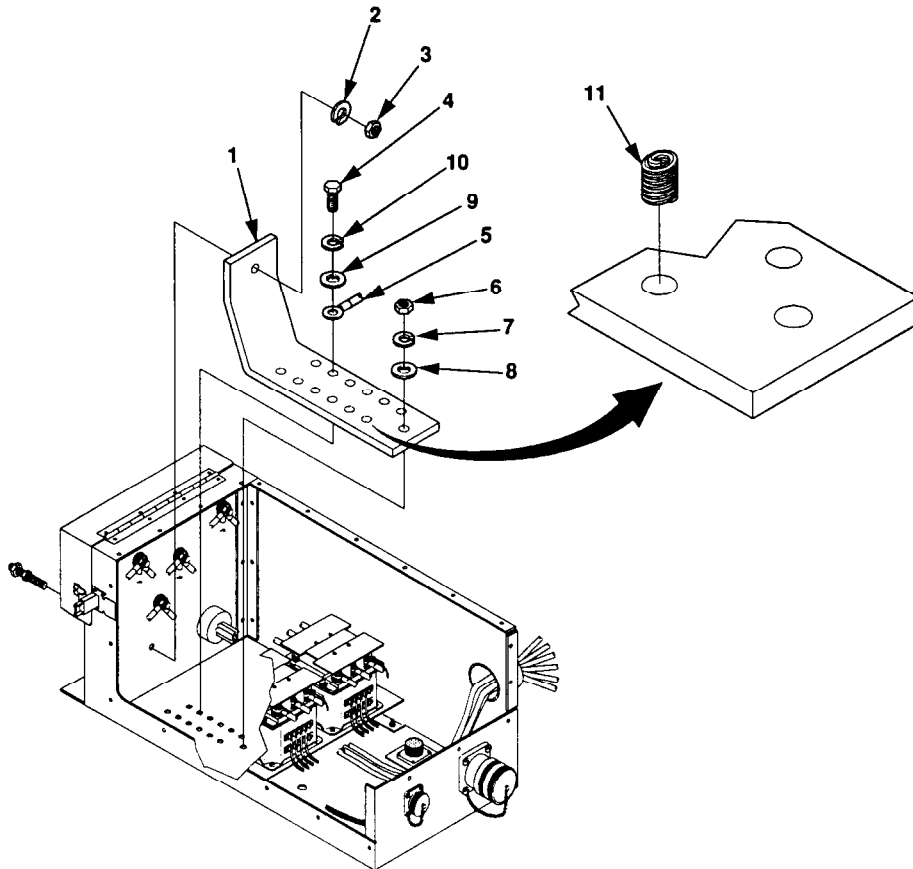

Figure 5-14. Bus Bar Maintenance
5. Remove cap screws (4, figure 5-14), lock washers (10), flat washers (9), and electrical leads (5) from bus bar (1).
6. Remove nut (3) and lock washer (2).
7. Remove nut (6), lock washer (7), flat washer (8), and bus bar (1).
1. Position bus bar (1, figure 5-14) in place.
2. Install flat washers (8), new lock washers (7), and nut (6).
3. Install lock washers (2) and nut (3).
4. Install leads (5), flat washers (9), lock washers (10), and cap screws (4).